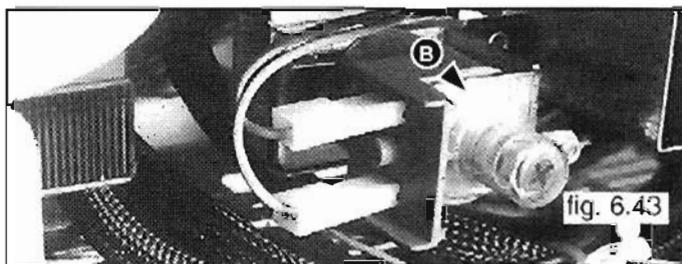

fig. 6.43
- 4 With a 14 mm spanner turn the cartridge "B" counter-clockwise (see fig. 6.43);